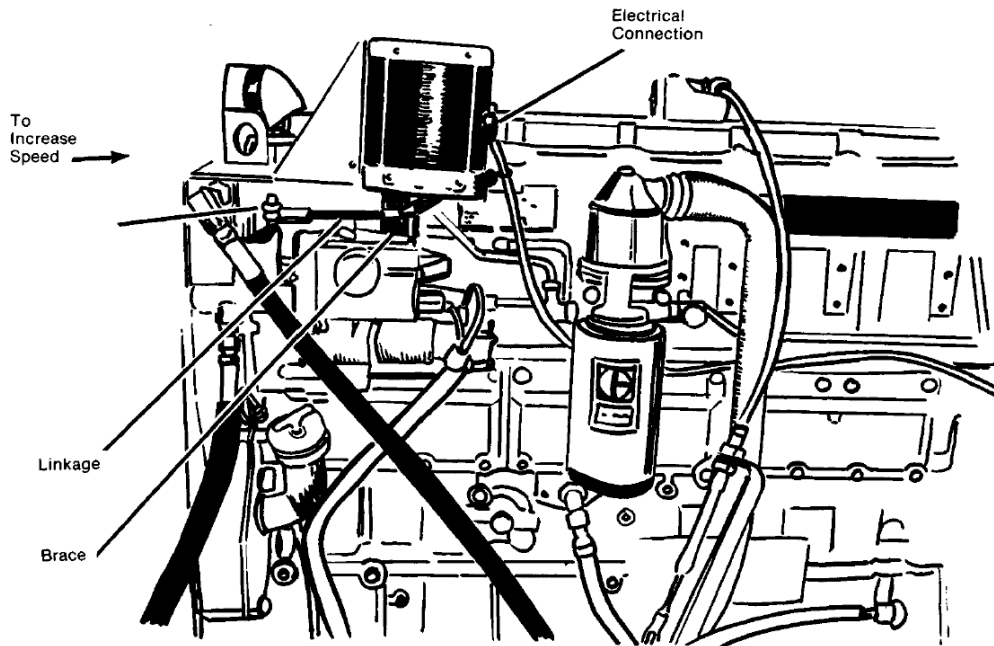

Figure 4. Actuator Installed, Showing Brace, and Electrical Connection Location
11. Attach the actuator lever to the actuator shaft (see Figure 4). The actuator will be at the minimum-fuel position, and the actuator lever should be at about a right angle to the side of the engine.